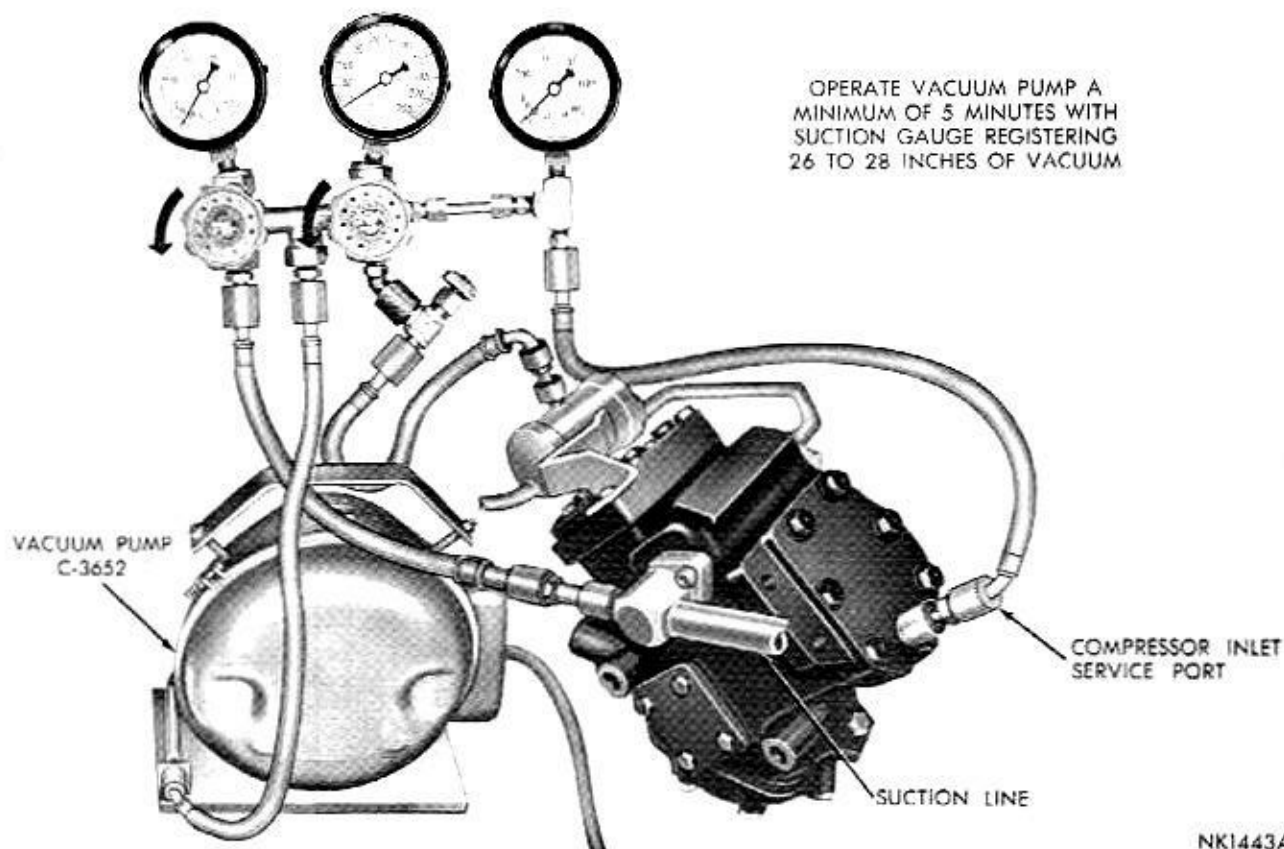

Fig. 1—Evacuating the System
(1) Connect gauge set manifold to compressor and long test hose from gauge set manifold center connection to vacuum pump, Tool C-3652. (Fig. 1).
(2) Open both gauge set manifold valves, and the needle valve.
(3) Start the vacuum pump and operate until the evaporator suction gauge registers at least 26 inches of vacuum. If system is tight and pump in good condition, vacuum will go as low as 28 inches.
(4) Allow vacuum pump to operate with the suction gauge registering 26 to 28 inches of vacuum for a minimum of five minutes.
(5) Close both gauge set manifold valves, turn off vacuum pump and remove test hose from vacuum pump. Leave gauge set manifold connected to compressor. Charge system with proper amount of Refrigerant 12.